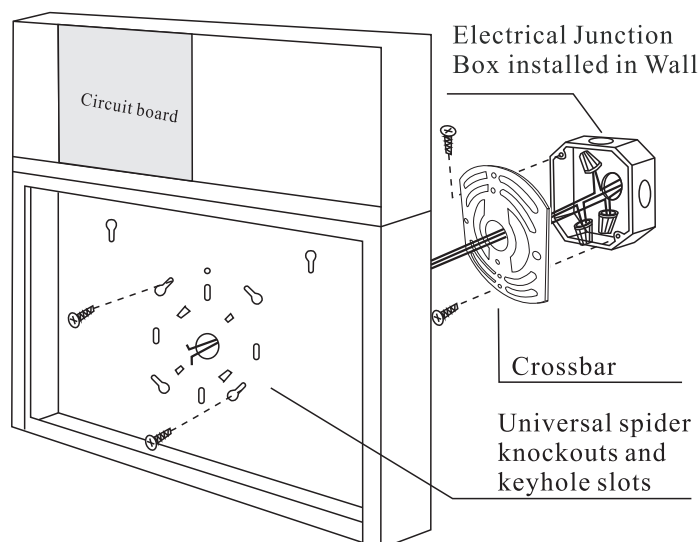

Fig.3
5.1.9. Knockout and remove any required directional chevron/arrows from the sign faceplate (Fig. 3).